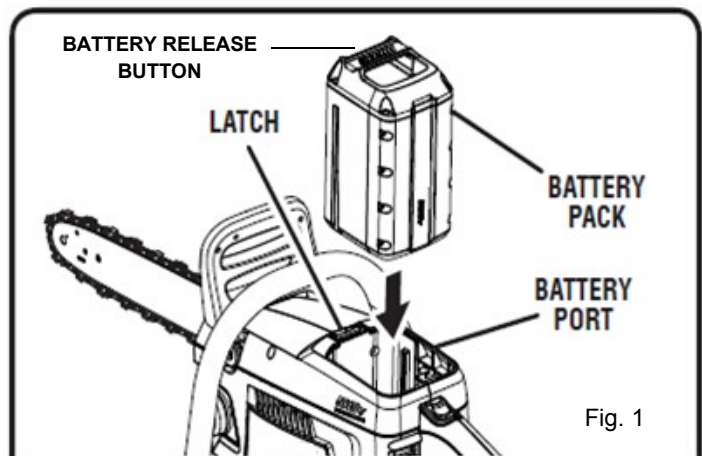

Fig. 1
- Align grooves on battery pack with raised ribs in the tool's battery port and place the battery pack in the tool. (Fig 1)